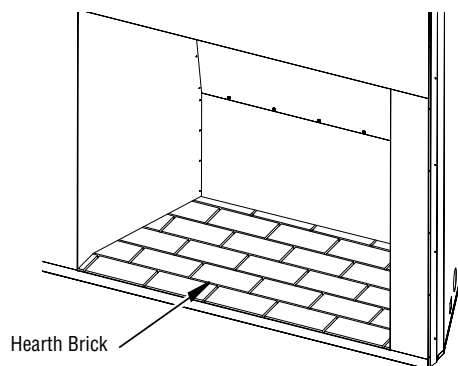

Figure 28 - Installing Hearth Brick Panel
1. Install hearth brick panel. Using at least two people, hold hearth brick panel by its side edges. Place the back edge of hearth brick panel into the firebox first and carefully lower the front edge of panel. Make sure hearth brick panel is centered in the firebox and flush with the front of the fireplace. Be careful not to pinch your fingers between the hearth brick panel and firebox (*Figure 28*).